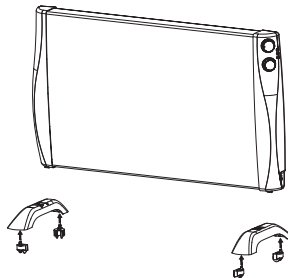

Figure 1
1. Fix the caster into the feet mounting hole (Figure 1).